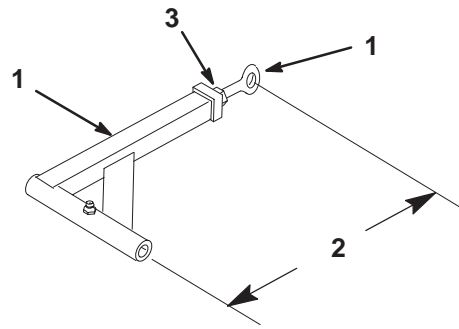

Figure 65
9. If the fixed idler contacts the end of the adjustment slot and more belt tension is required, a small change to lengthen the push arms can be made (Fig. 65).